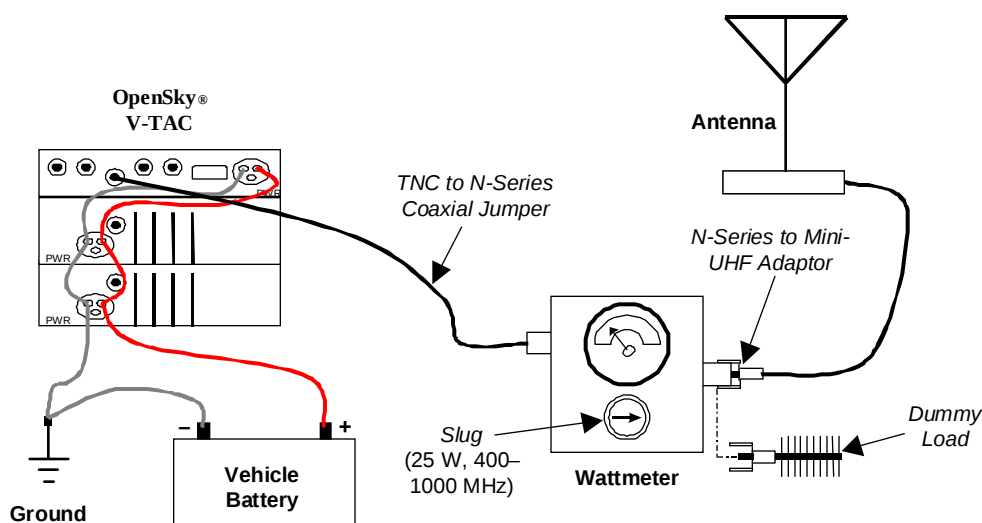

Figure 2 – Wattmeter Connection
1. Connect the wattmeter to the Antenna Port of the RF Combiner for testing according to Figure 2 , using the dummy load in place of the antenna.	♦ The dummy load connects to the output side of the wattmeter, in place of the antenna cable (see Figure 2).
1. Connect the wattmeter to the V-TAC and antenna for testing according to Figure 2 .	♦ Remove the dummy load, if necessary, and connect the antenna lead to the output side of the wattmeter (see Figure 2).